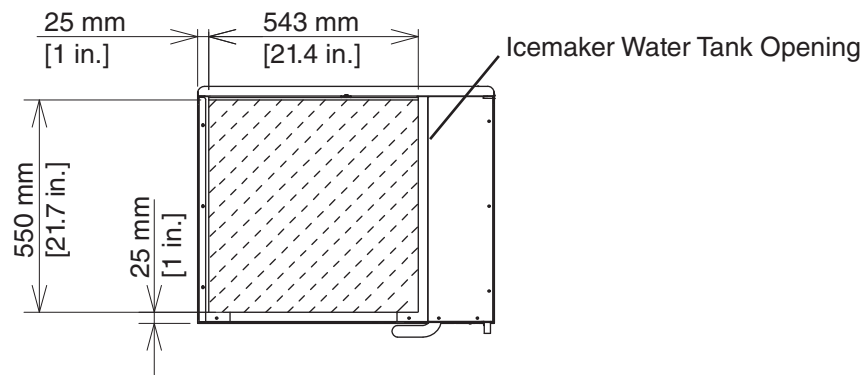

Fig. 5
- 3a) **Dispenser Unit:** Install the dispenser unit adapter kit. Make sure the dispenser unit adapter kit opening and the icemaker water tank opening match. If not, cut the dispenser unit adapter kit to the dimensions needed to match the icemaker water tank opening. **WARNING! The dispenser unit adapter kit opening MUST match the icemaker water tank opening. A smaller opening may result in water leakage which could create a slip hazard or costly water damage. Seal the adapter kit to the dispenser unit with RTV-748 sealant (provided) or equivalent. See Fig. 5.**